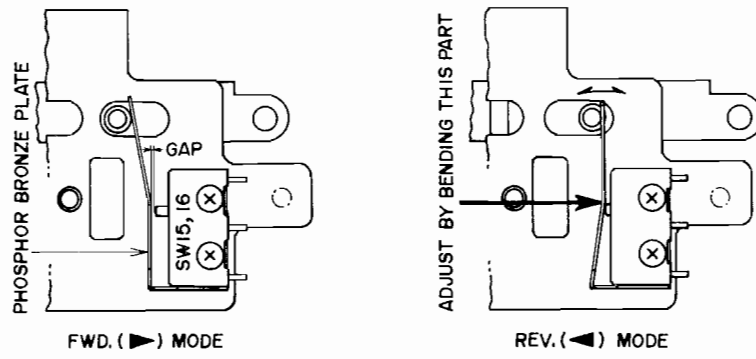

Fig. 11
- 1) At FWD mode, (▶) there should be a gap between the phosphor bronze plate, and the micro switch should be completely inactivated. (Fig. 11, left)
- 2) At REV mode, (◀) the phosphor bronze plate should depress the micro switch so that it operates perfectly. (Fig. 11, right)
- 3) In case the micro switch does not operate perfectly, adjust by bending the phosphor bronze plate as shown in Fig. 11 (right).